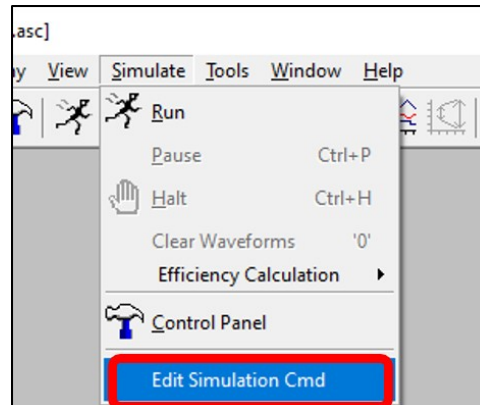
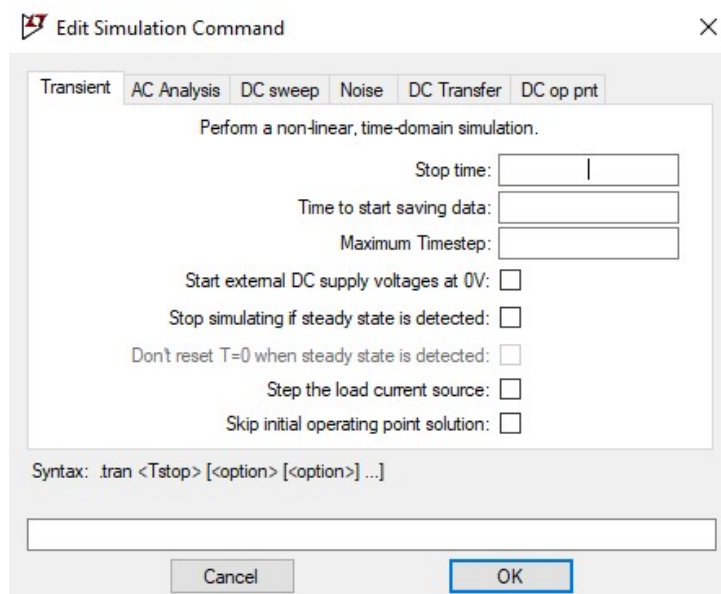

Figure 32: LTspice simulation drop-down list.
Figure 33: LTspice Edit Simulation Command window.
1. The circuit is now ready to simulate. The first step is to create a simulation profile. Click on *Simulate* at the top of the window to open a drop-down list as shown in Figure 32. Click on the *Edit Simulation Cmd* option. The *Edit Simulation Command* window shown in Figure 33 will appear.
1. The first step for setting up the simulation is to edit the simulation command. The process is similar to what was done for the DC operating point simulation. Go to *Simulate* → *Edit Simulation Command* (see Figure 32 to open the *Edit Simulation Command* window (see Figure 33)). Navigate to the DC sweep tab to set up a DC sweep simulation.